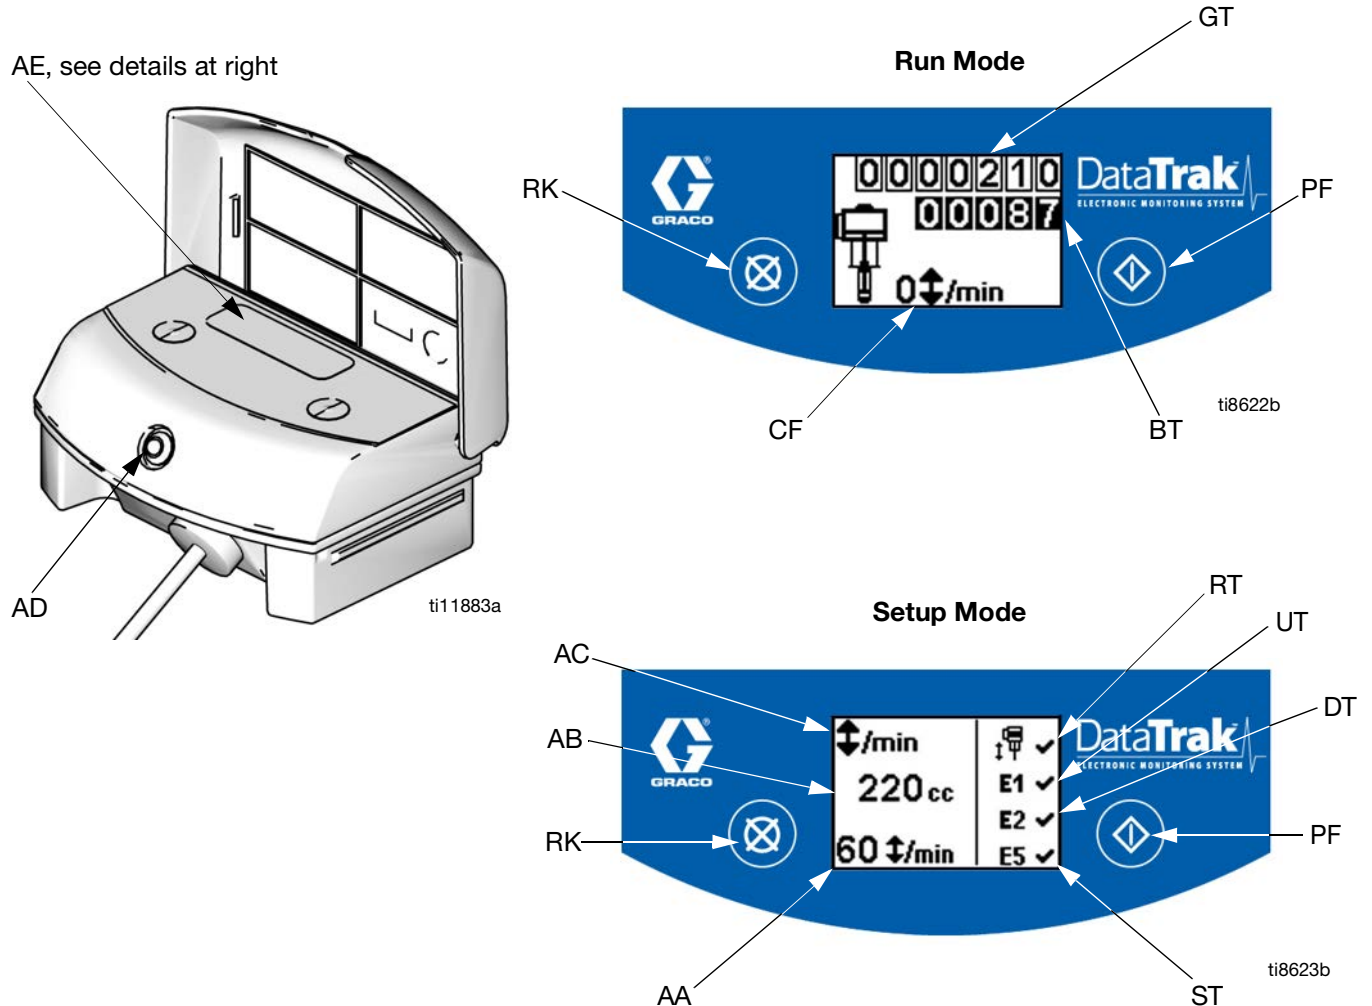

FIG. 8. DataTrak Controls and Indicators
Key for FIG. 8
1. See FIG. 8. Press and hold  for 5 seconds until Setup menu appears.
NOTE: When runaway, E1, E2, and E5 error options are enabled, a ✓ will appear on the setup screen. See FIG. 8.
1. See FIG. 8. If pump runaway occurs, the runaway solenoid will actuate, stopping the pump. The LED (AD) will flash and the display (AE) will indicate a runaway condition (see Table 1). The display will cycle through six instruction screens.
2. Runaway Screens 1 and 2: To reset the runaway solenoid, close the master air valve (E). Wait for air to completely bleed off the air motor.
3. Runaway Screens 3 and 4: After the air is bled off, push the solenoid release button (J) down to reset the air valve. The button will pop back up when the air valve is repressurized.
5. Open master air valve (E) to restart pump.
NOTE: To disable runaway monitoring, go to setup mode and set runaway value to 0 (zero) or toggle (RT) off  (see FIG. 8).
1. See FIG. 8. To enter Prime/Flush mode, press any key to wake up the display, then press . The Prime/Flush symbol will appear in the display and the LED will flash.
2. While in Prime/Flush mode, runaway protection is disabled and the batch totalizer (BT) will not count. The grand totalizer (GT) continues to count.
See FIG. 8. The last digit of the batch totalizer (BT) represents tenths of gallons or liters. To reset the totalizer, press any key to wake up the display, then press and hold  for 3 seconds.
See FIG. 8. The display (AE) will turn off after 1 minute of inactivity in Run mode or 3 minutes in Setup mode. Press any key to wake up the display.
DataTrak can diagnose several problems with the pump. When the monitor detects a problem, the LED (AD, FIG. 8) will flash and a diagnostic code will appear on the display. See Table 1.